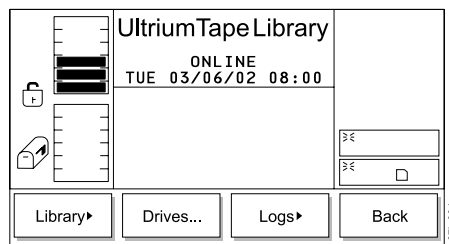

Figure 116. Status Menu
1. From the Main Menu's initial screen, press the button below the **Status** softkey. The Status Menu displays (see Figure 116).